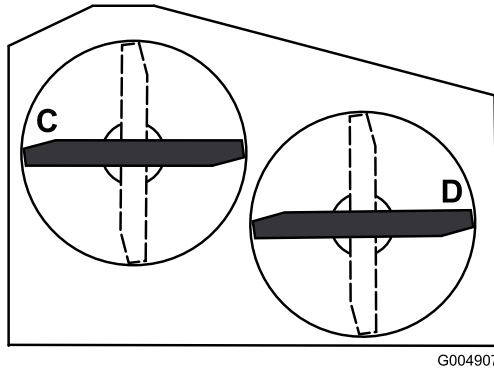

Figure 60
3. Measure at **C** and **D** locations from a level surface to the cutting edge of blade tips (Figure 60).